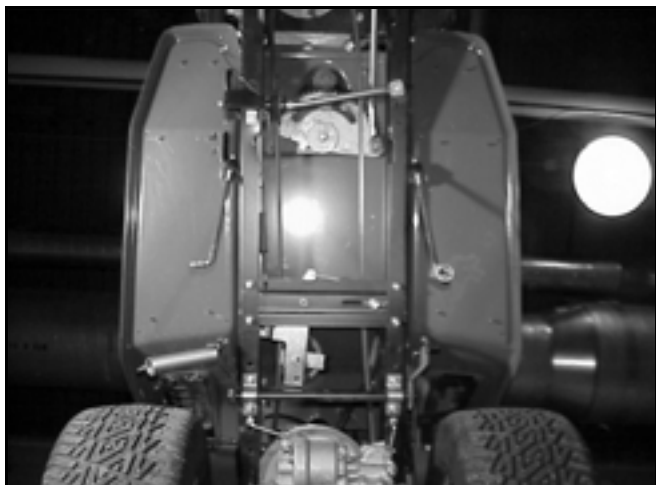

Figure 30
7. Route belt back over the pedal pivot rod, the idler pivot bracket, and around the transaxle pulley (Figure 30).